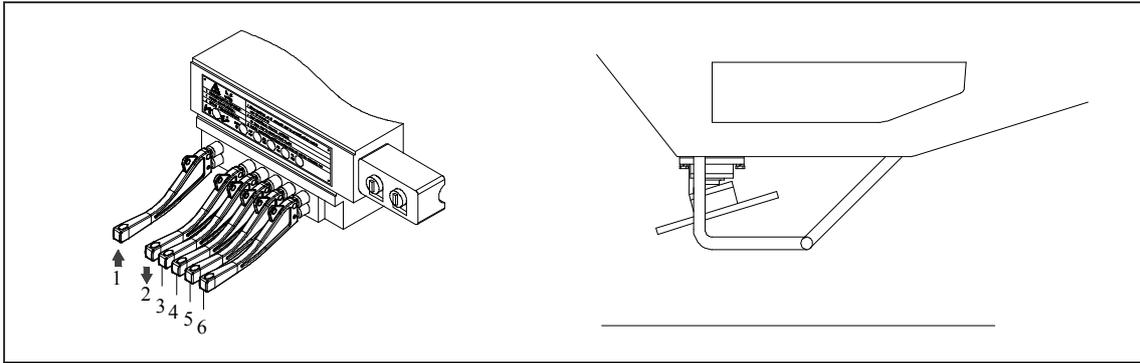

Fig. 04 – 22
c) As illustrated in Fig. 04 – 23: